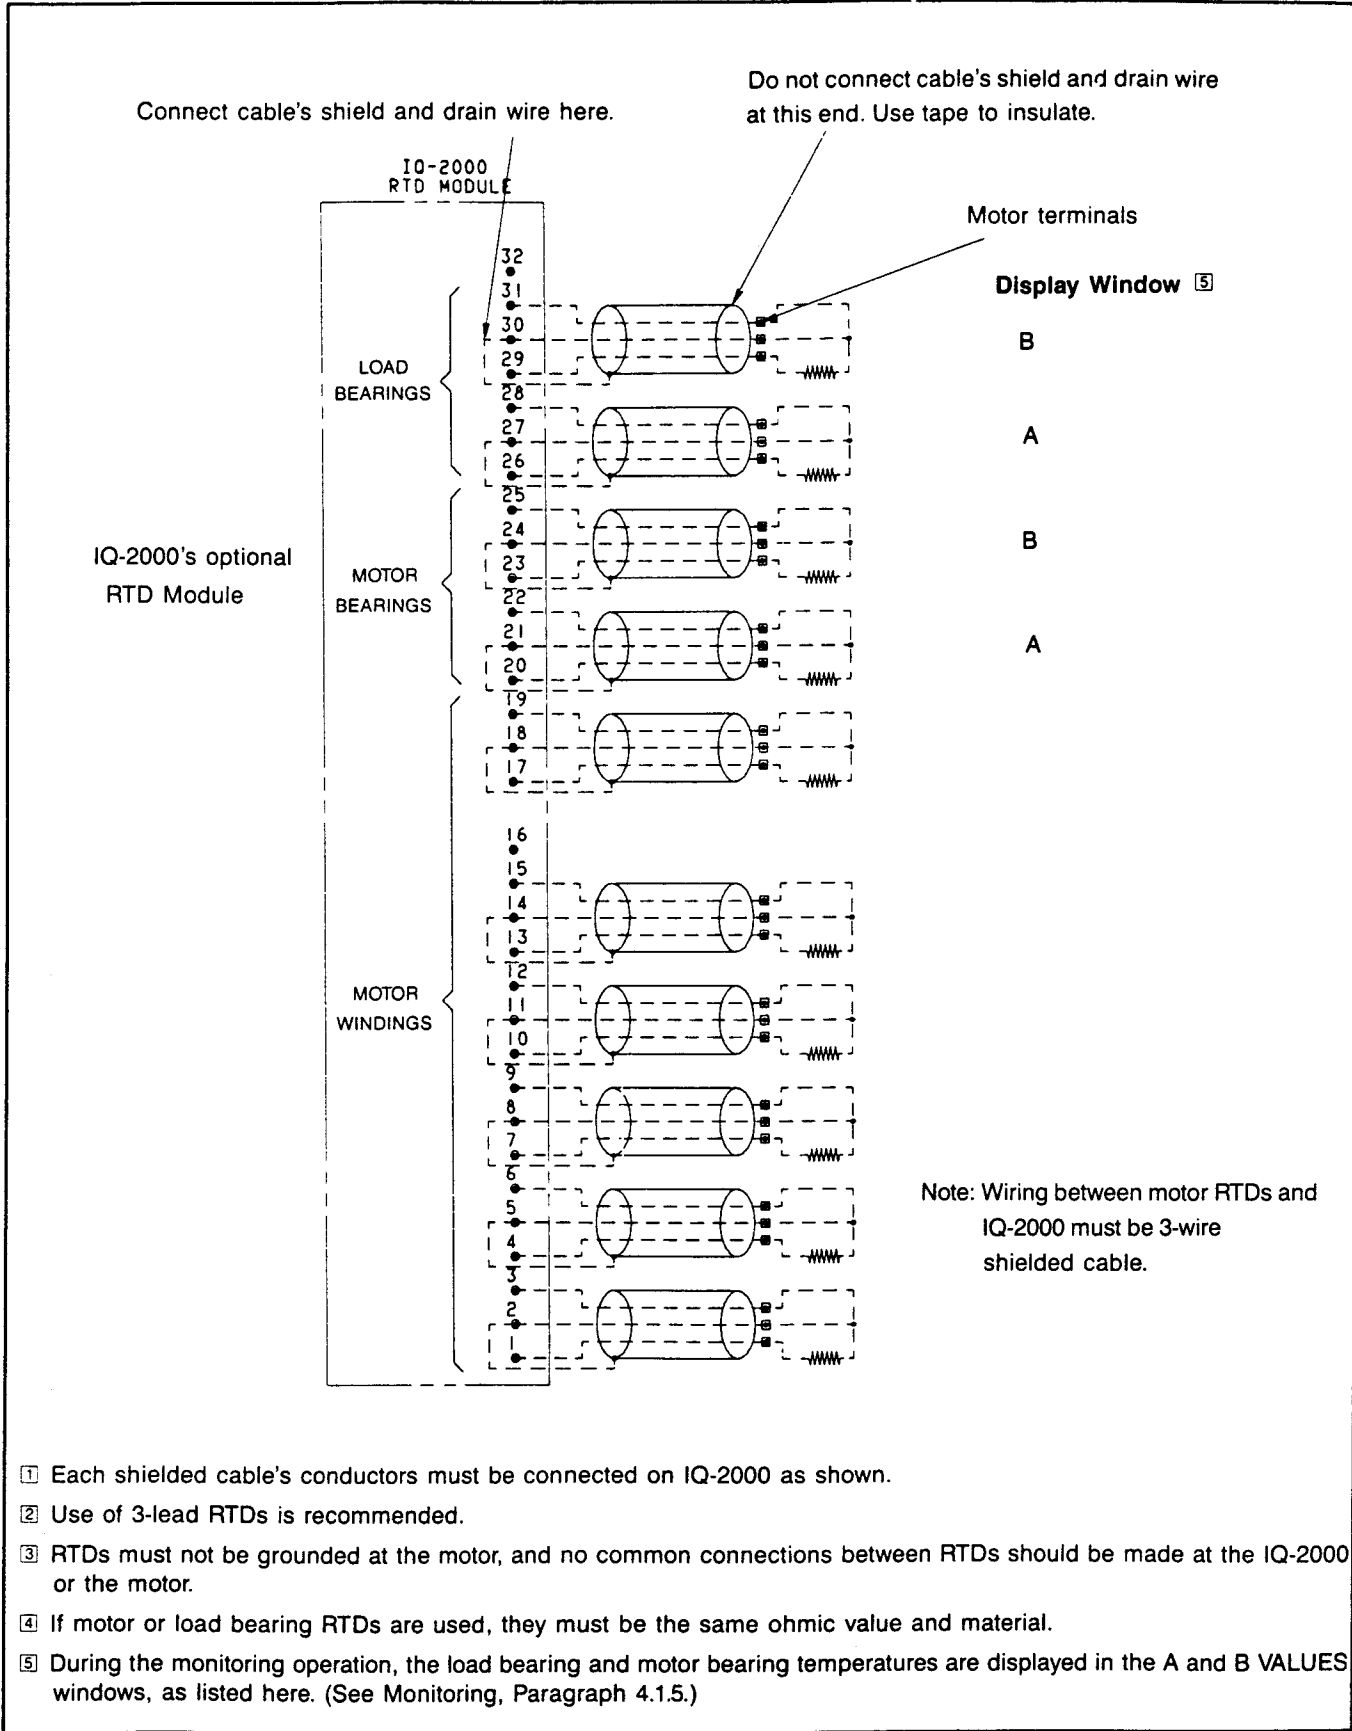
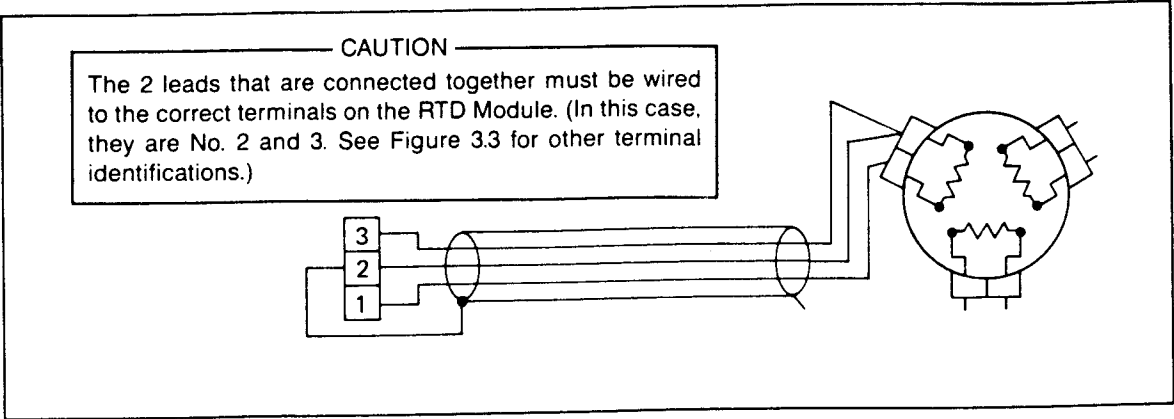

Figure 3.3 — RTD Wiring (3-Lead Type)
Figure 3.4 — Two-Lead RTD Wiring
Guideline 5 — The wiring between the RTD Module contained in the starter cabinet and the RTDs in the motor must be AWG No. 18 3-conductor, shielded cable. (See Figure 3.3.) Use Belden No. 8770, or equivalent. Note: in cases where the leads from the motor or other resistance temperature devices provide only 2 leads each, connect 2 conductors from the RTD Module to one of these leads. Follow Figure 3.4 carefully when selecting the 2 conductors to tie together. Also it is important to connect the 2 conductors as close to the motor as possible.
Guideline 6 — Connect the shield and drain wire from RTD cables to the common terminals on the RTD Module, as shown in Figure 3.3. Note: connect the shield **only** at the RTD Module. Use shrink tubing or electrical tape to insure that the shields do not make accidental contact with ground or other terminals at the RTD end.
- ☐ If the application contains an RTD Module, verify that the cable shields are wired to the correct terminals, as shown in Figure 3.3. Also verify that the shield drain wires are insulated with tape or shrink tubing so they cannot ground nor cause shorts.
- ☐ Verify that unused RTD Module inputs, if any, are jumpered out. Each set of 3 unused inputs must be jumpered. For example, if the 2 load bearing RTDs, as shown in Figure 3.3, are not used, jumper terminals 29, 30 and 31. Also separately jumper terminals 26, 27 and 28.